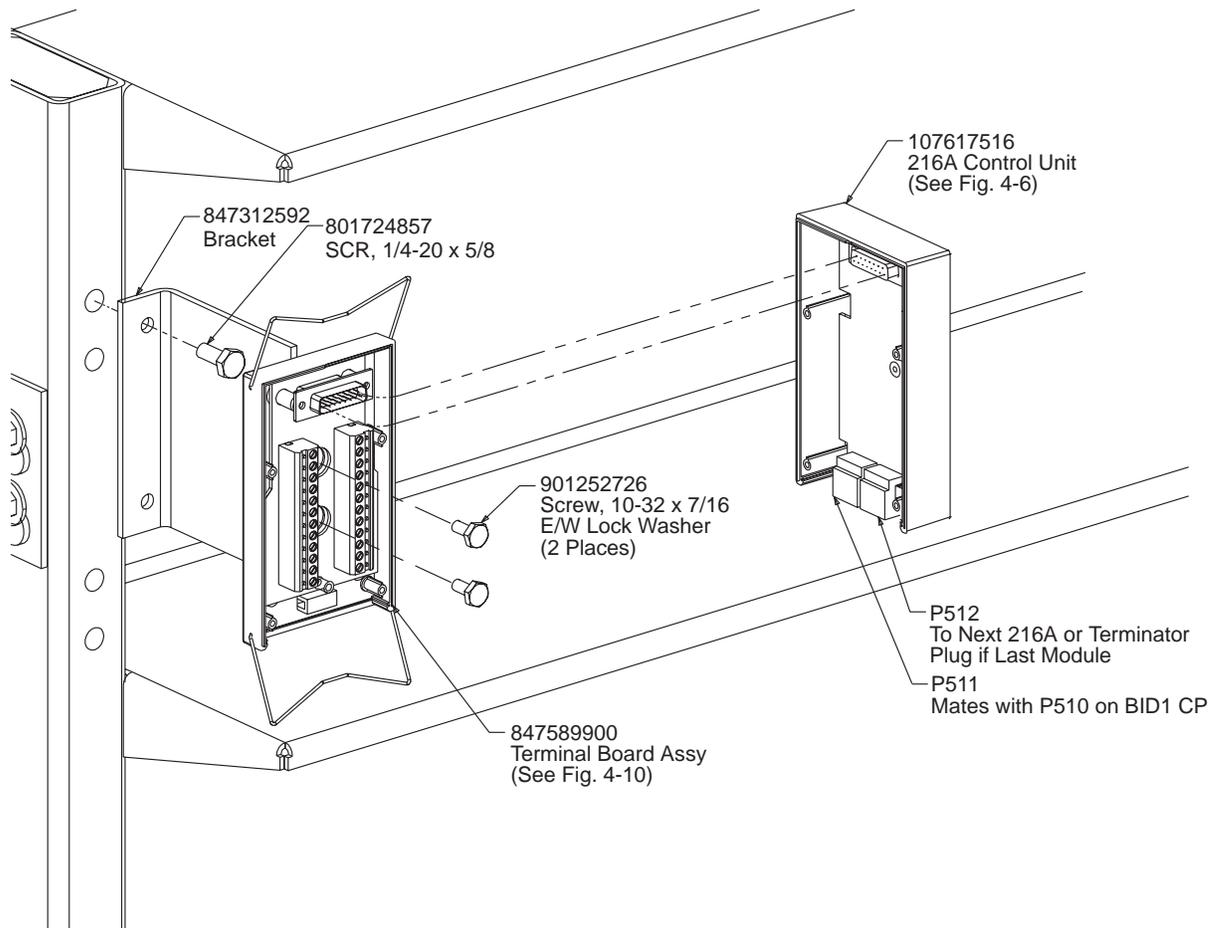

Figure 4-9: 216A Battery Thermal Compensation Control Unit installed on frame
1. Mount the VR Module bracket to any one of the available 1/4 - 20 Pem-nuts in the battery stand upright. Then attach the Terminal Block Assembly Base to the VR Module bracket with the 10-32 screws provided. (See Figure 4-9.)
4. Mate the 216A Control Unit to the Terminal Block Base Assembly, See Figure 4-9. Latch the two units together with the clips on the base.